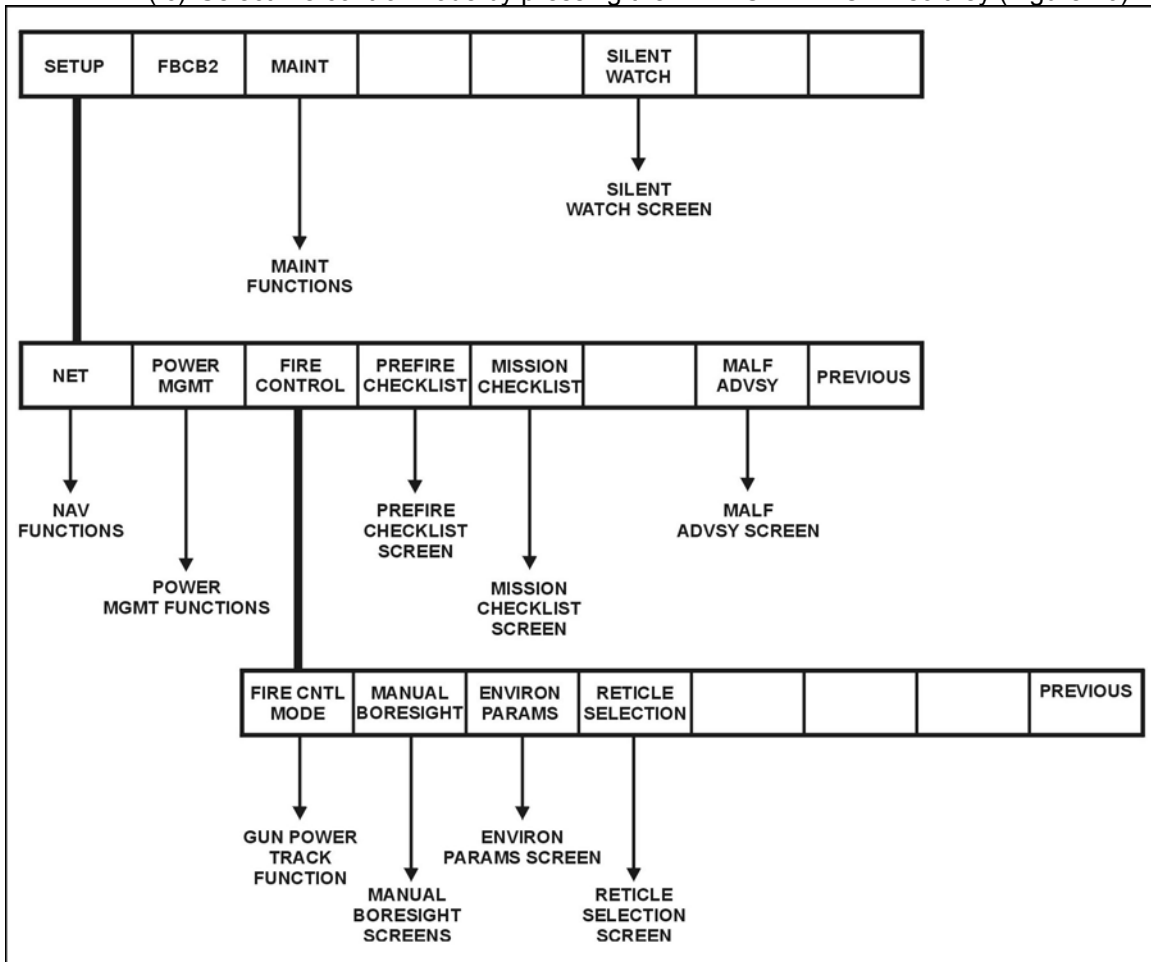

Figure 10. Fire control mode.
- (c) Select fire control mode by pressing the FIRE CNTL MODE softkey (Figure 10).